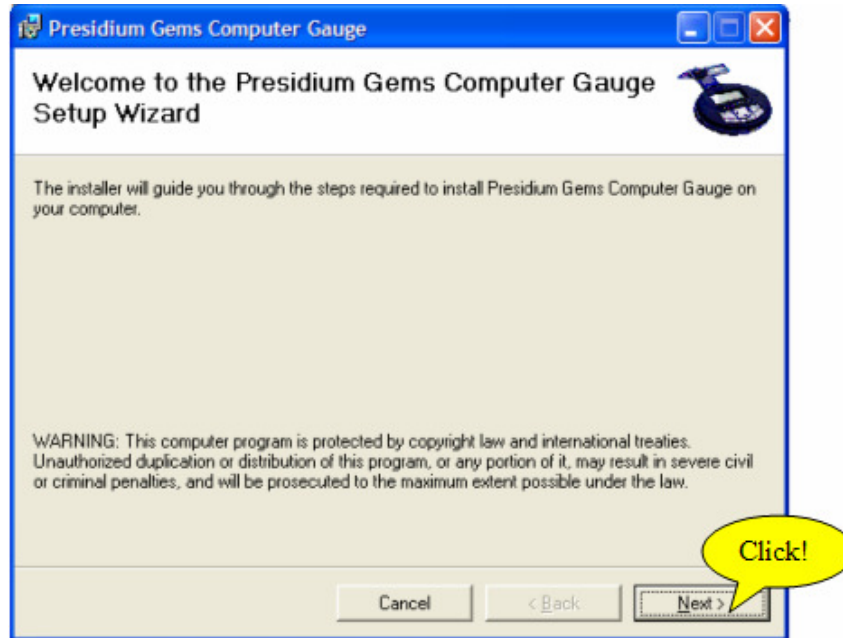

Figure 1.1
- 2) The setup wizard dialog box will appear. Please refer to Figure 1.1 above.